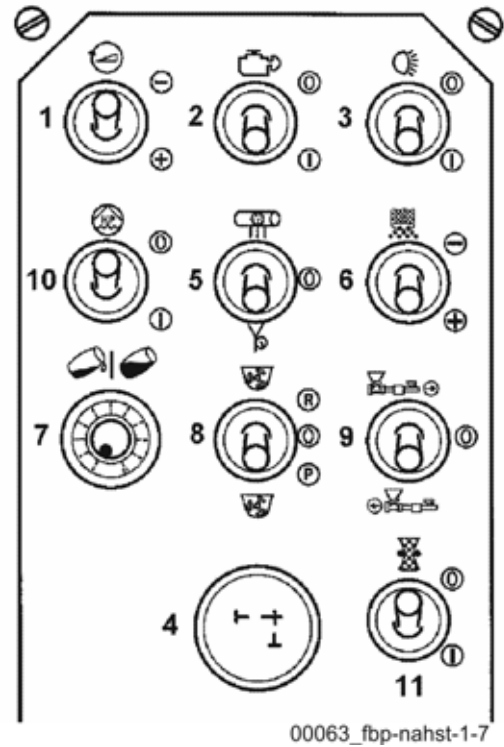

Fig. 447 Local control unit for a truck mixer pump
1 For truck mixer concrete pumps (FBP) as of series 02, a selector switch (11) on the local control unit (**Fig. 447**) serves the same purpose.